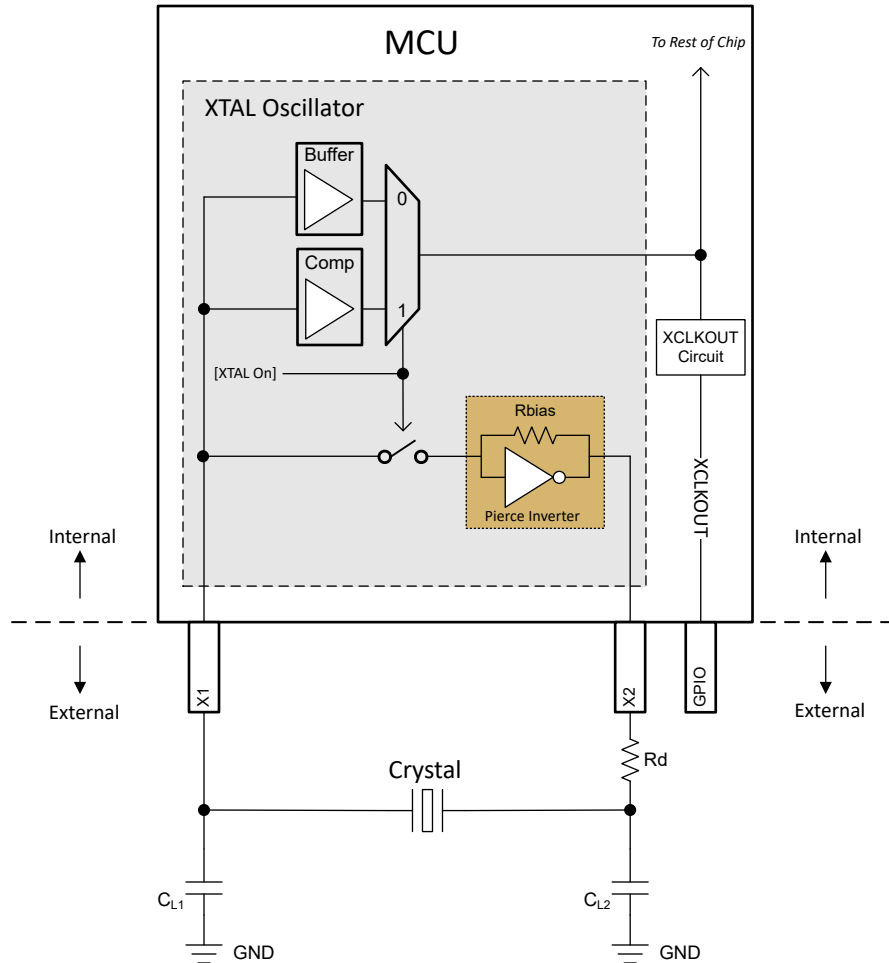

Figure 6-17. Electrical Oscillator Block Diagram
The electrical oscillator in this device is a Pierce oscillator. It is a positive feedback inverter circuit that requires a tuning circuit in order to oscillate. When this oscillator is paired with a compatible crystal, a tank circuit is formed. This tank circuit oscillates at the fundamental frequency of the crystal. On this device, the oscillator is designed to operate in parallel resonance mode due to the shunt capacitor (C0) and required load capacitors (CL). Figure 6-17 illustrates the components of the electrical oscillator and the tank circuit.
From Figure 6-17, CL1 and CL2 are in series; so, to find the equivalent total capacitance seen by the crystal, the capacitance series formula has to be applied which simply evaluates to $[CL1]/2$ if $CL1 = CL2$.